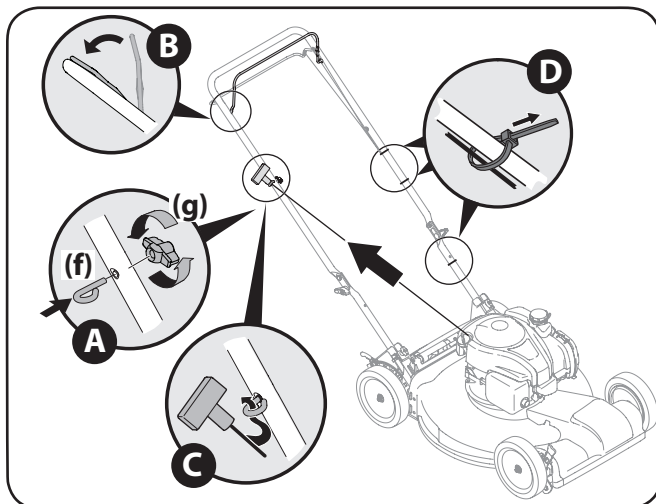

Figure 3-5
- Use the lock nut (g) to tighten the eye bolt (f) to the upper handle. DO NOT overtighten. See Figure 3-5.